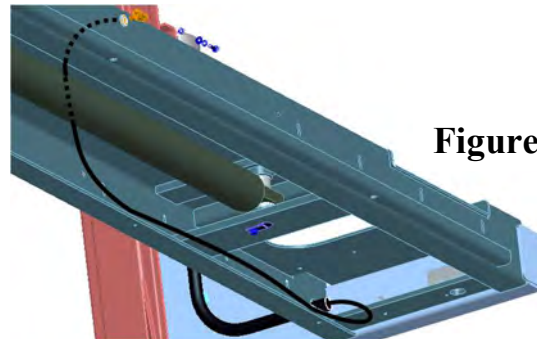

**Figure 52**
- Install the 90° elbow 1/4" NPTM to 3/8" tube push-in on the inside of the deck, into the terminal bolt, as shown in **Fig.52**.